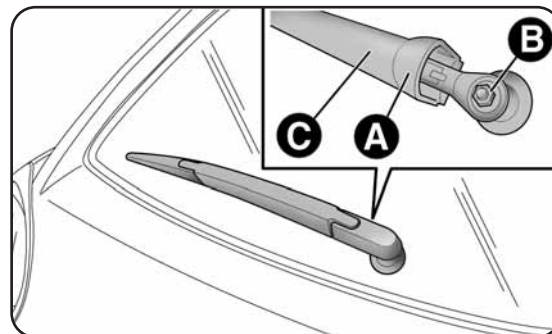

fig. 7
- lift cover A-fig. 7, undo nut B and remove arm C;